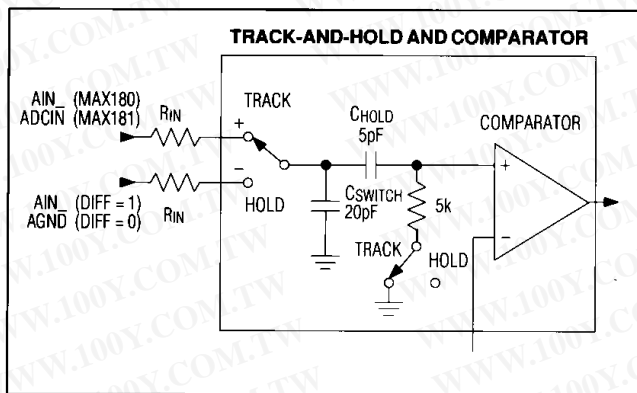

Figure 4. Equivalent Input Circuit
Figure 4 shows the equivalent input circuit, illustrating the sampling architecture of the ADC's analog comparator. The input capacitance acts as the hold capacitor and is charged by the input signal with every A/D conversion. The capacitance is charged through an internal  $1\text{k}\Omega$  resistor in series with the input. Note: Figure 4's switches represents both the mux and hold switches.
**Table 1. Address vs. Channel Selection (see Figure 4)**